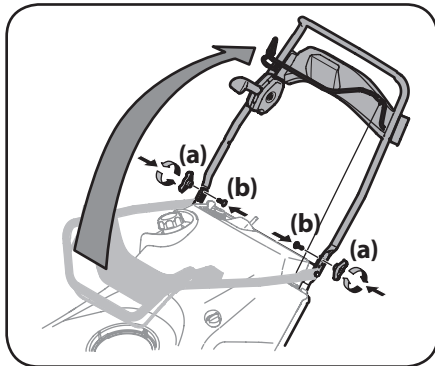
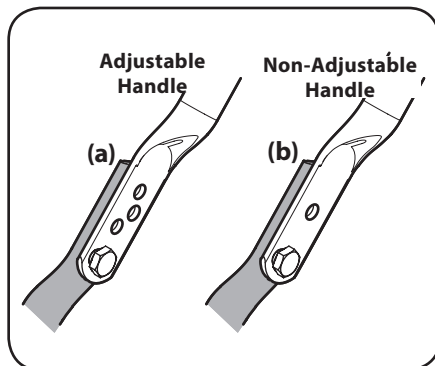

Figure 2-3
Figure 2-4
- Pivot the upper handle into the operating position. Be sure not to pinch any of the cables in the process. See Figure 2-3.
- See Figure 2-4. On models with an adjustable handle (a), proceed with Step 4. On models without adjustable handle (b), tighten the hardware removed in Step 1 to secure the handle in place. See Figure 2-3. For models without an adjustable handle (b), continue to Installing the Chute.